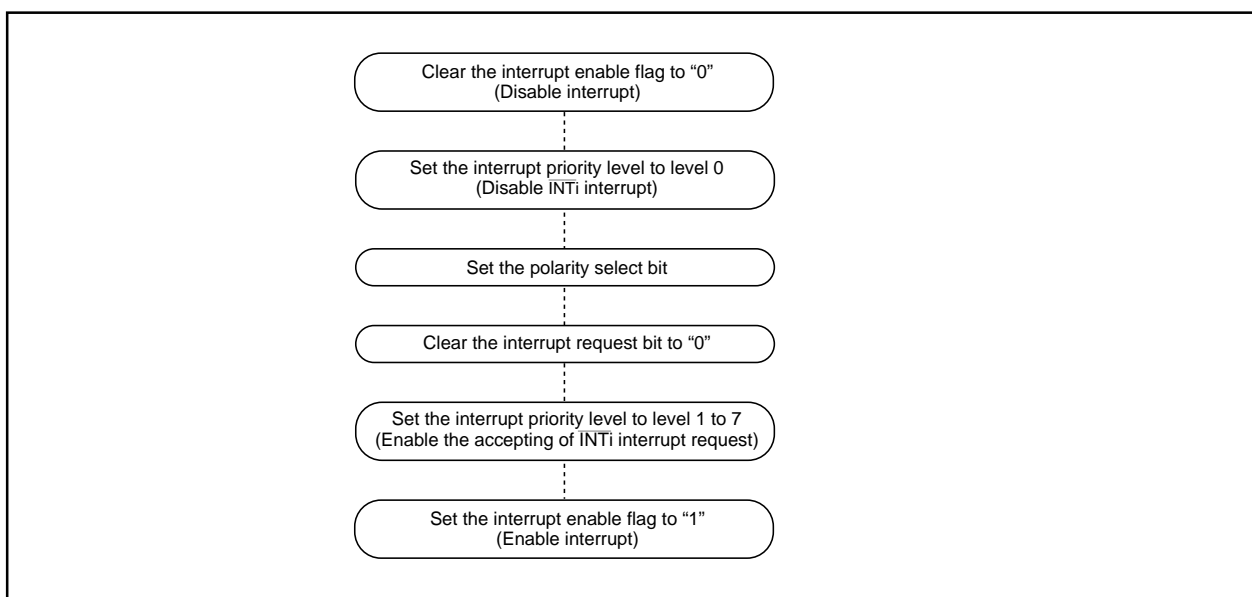

Figure 6-15. Switching condition of  $\overline{\text{INT}}$  interrupt request
- When the polarity of the  $\overline{\text{INT0}}$  to  $\overline{\text{INT5}}$  pins is changed, the interrupt request bit is sometimes set to "1". After changing the polarity, set the interrupt request bit to "0". Figure 6-15 shows the procedure for changing the  $\overline{\text{INT}}$  interrupt generate factor.